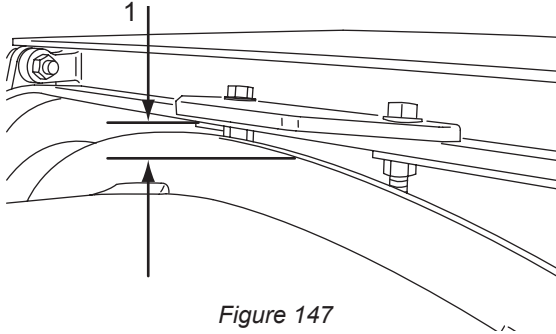

Figure 147
7. Check the debouncer-to-drip ring clearance (Figure 147, Item 1), the clearance should be $3/8$ to $1/2$ inch (10 to 13 mm) at the closest point.